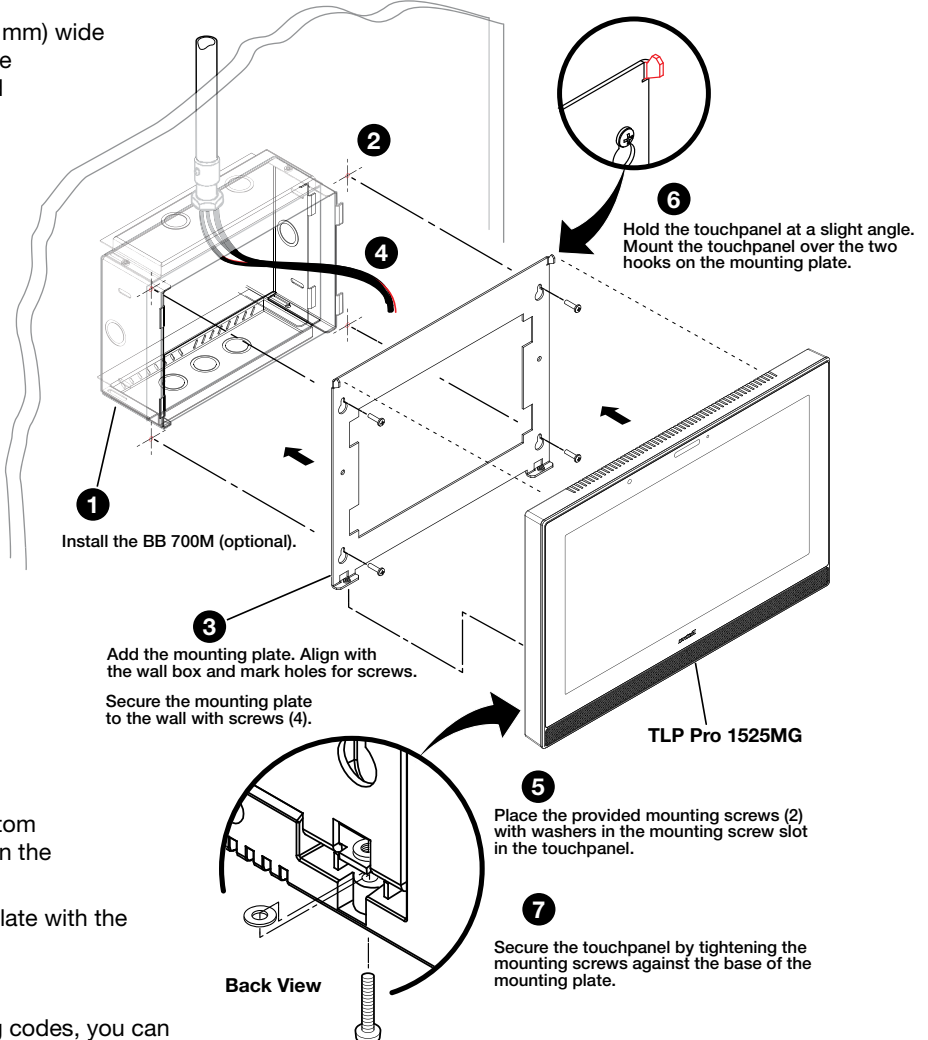

Figure 1. TLP Pro 1525MG Mounting
The touchpanels can be wall mounted using the provided hardware. Where local codes require a rear metal enclosure, either model can be mounted using the Extron BB 700M (not provided). Figure 1 shows the TLP Pro 1525MG. Mount the TLP Pro 1225MG or TLP Pro 1725MG in the same way.
1. Cut a hole in the drywall, 9.6 inches (243 mm) wide x 6.6 inches (166 mm) high, and install the BB 700M (see figure 1, ❶), as described in the *BB 700M Installation Guide* (see www.extron.com).
2. Place the metal mounting plate against the wall, mark the four mounting holes, and drill four pilot holes (❷) in those locations.
3. Secure the mounting plate with four #10 screws (❸).
4. Run and connect cables to the back of the touchpanel (❹), and see Rear Panel Features on page 4).
5. Insert the two provided Phillips pan head #6-32 x ¾ inch length screws with washers in the mounting screw slot (❺, see figure 1, Back View inset). Leave a gap for the flange at the bottom of the mounting plate to fit into.
6. Hold the touchpanel at a slight angle and lower the notches at the top of the back panel over the hooks of the mounting plate (❻).
8. Secure the touchpanel to the mounting plate with the mounting screws (❼).